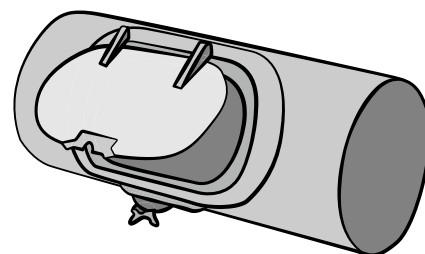

FIG. 20d
- Lay the Clean Out back onto the pipe and align with the hole you cut [FIG. 20d].